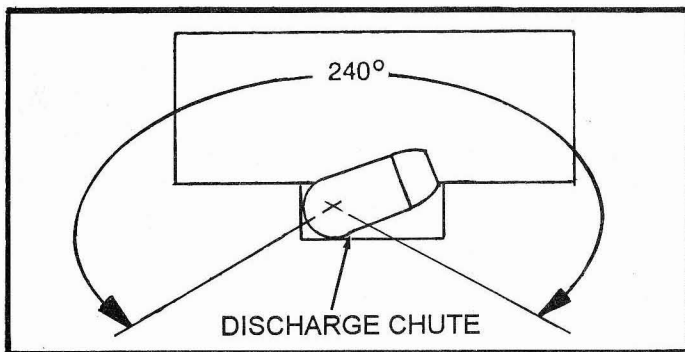

FIG. 27
- The Snow Thrower has a discharge radius of 240 and is controlled by the Chute Control Rod. The Discharge Chute Stop Bolt will prohibit rotation beyond this point. (See Fig. 27)